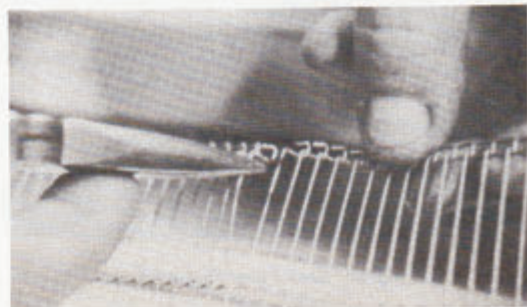

Fig. 7A
- d. To replace the entire assembly: (1) remove connector from PC board, (2) disconnect the white #12 wire from the load side of the magnetic relay, (3) remove the white #12 wire at the ammeter. (Do not attempt to remove from the heat sink.) Reconnect all wires on new SCR unit and replace into original position.
- b. Lift belt from wear strips and with needle nose pliers unhook each end of a given link. (Fig. 7A)